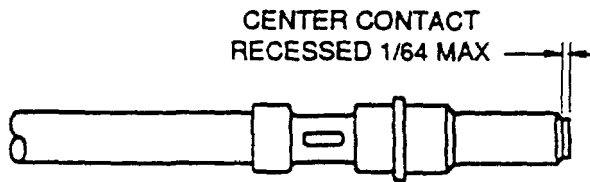

Figure 29. Inspect Contact
k. Inspect completed assembly to ensure that center contact is not recessed more than 1/64-inch (Figure 29).
f. Inspect completed assembly to ensure that center contact insulator does not protrude more than 1/64-inch (Figure 29).
h. Inspect completed assembly to ensure that center contact insulator does not protrude more than 1/64-inch (Figure 29).